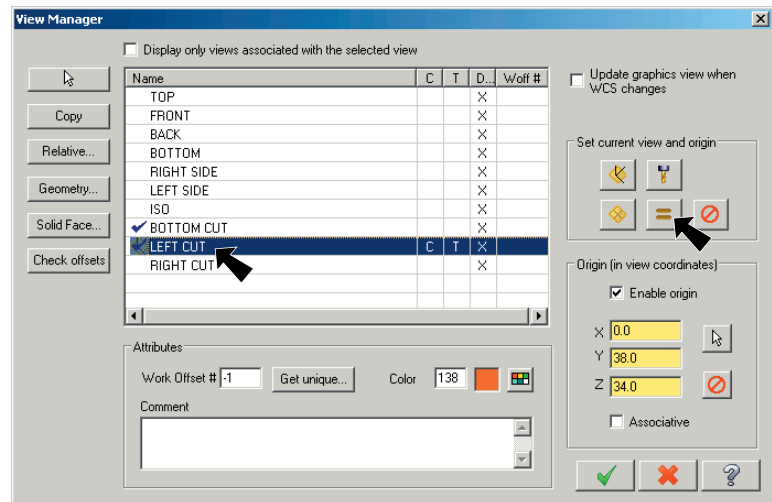

Fig. 64
Step 2. Click the **LEFT CUT** view from the list of views in the View Manager, **Fig. 64**.
Step 3. Click the Set All  button, **Fig. 64** and click OK.